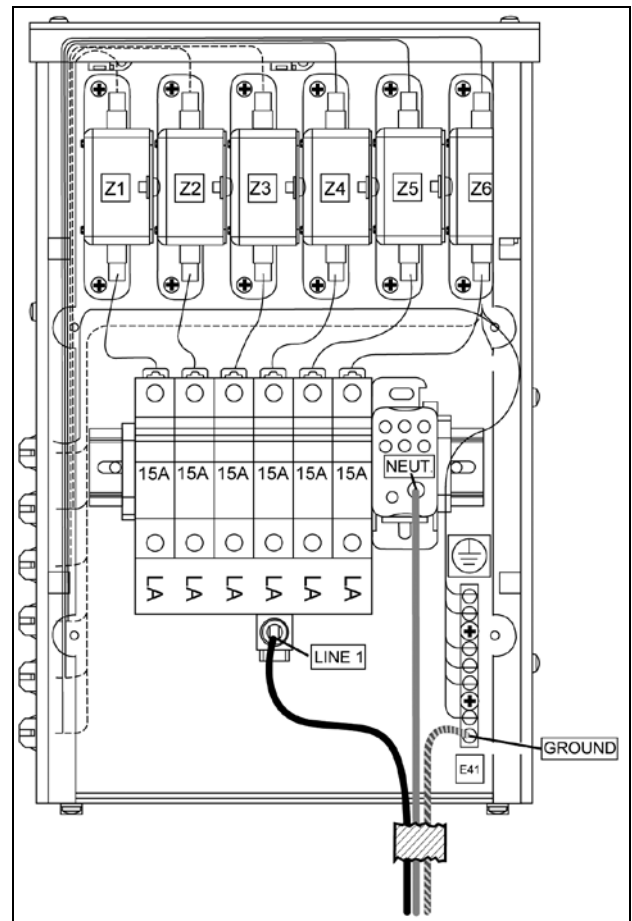

Figure 33: 240 V Single-Phase Power Termination
4. Connect the neutral wire to the neutral lug and the live wire to the Line 1 lug, as shown in **Figure 33**.